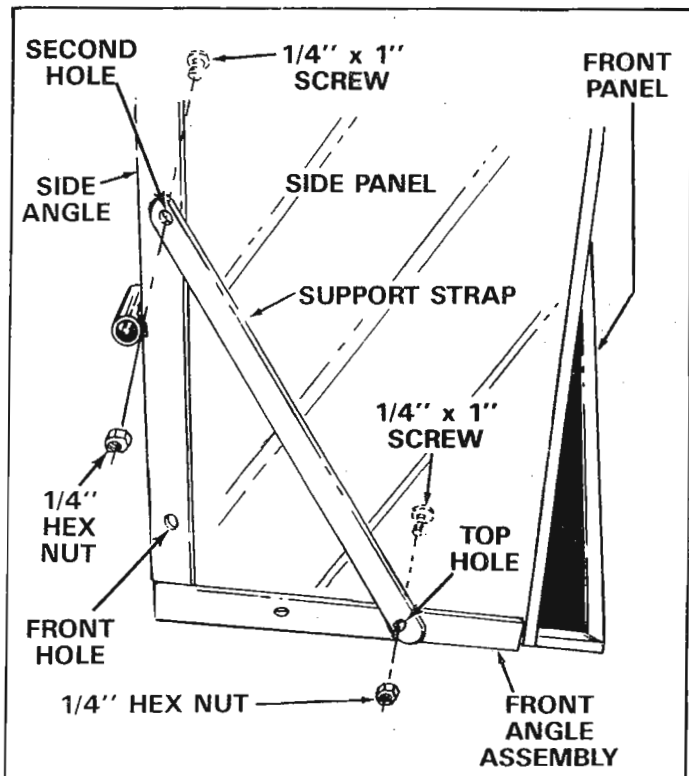

FIGURE 6
- Place one side panel in position, against side angle and down on top of front panel. Start one $1/4'' \times 1''$ truss head screw through the **second hole** in side panel, support strap and side angle. Secure with hex nut. See figure 6. **Make only finger tight as this time.**
- Assemble one $1/4'' \times 1''$ truss head screw through top hole in side panel, support strap and front angle assembly, then remove hex nut from screw assembled in step 9, next place support strap over these two screws and secure with hex nuts. See figure 6. **Make only finger tight at this time.**
- Assemble one $1/4'' \times 3/4''$ truss head screw through bottom hole in side panel and front angle assembly and another $1/4'' \times 3/4''$ truss head screw through front hole in side panel and side angle. Secure with flat washers and hex nuts. See figures 6 and 7. **Make only finger tight at this time.**